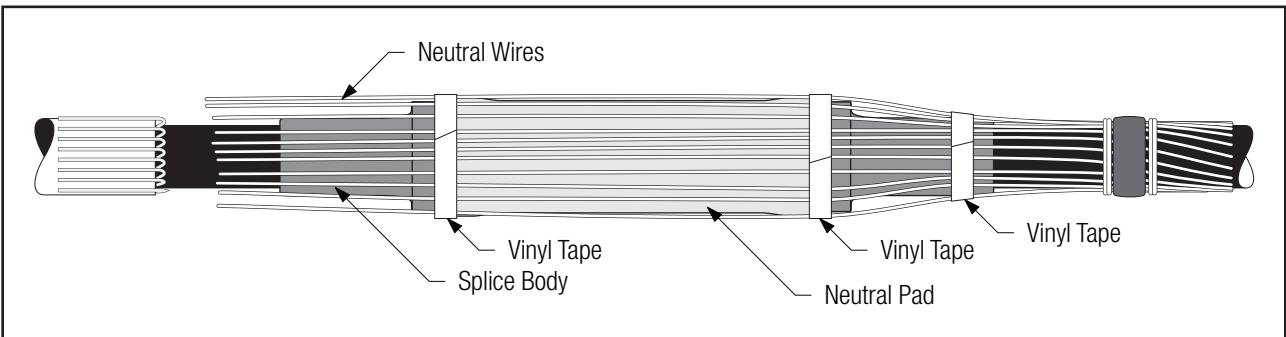

Figure 40
10.2.1 Center neutral pad on splice body. Route neutrals either straight or concentrically around splice body and secure using vinyl tape (Figure 40).